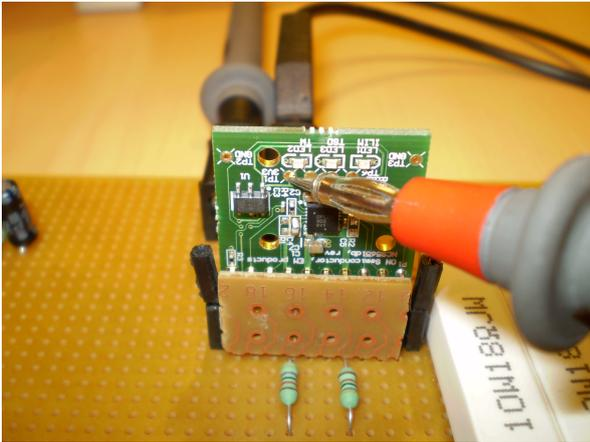

Figure 3: Method to measure the 3V3 logic supply.
12. Disconnect the DVM probe from the hook or the yellow banana socket and place this on test point 1 (TP1) of the NCS5651MNSEVB. The output voltage on this point should be 3.3 ± 0.15 V. The method is shown in figure 3.